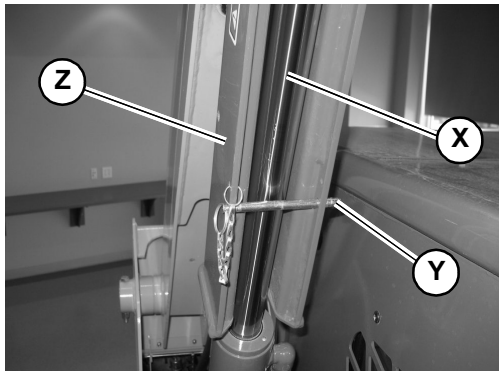

Fig. 59 – Lift Arm Support Retaining Pin
- c. Insert the retaining pin (Y, Fig. 59) through the lift arm support (Z) so it passes under the lift arm cylinder rod (X).